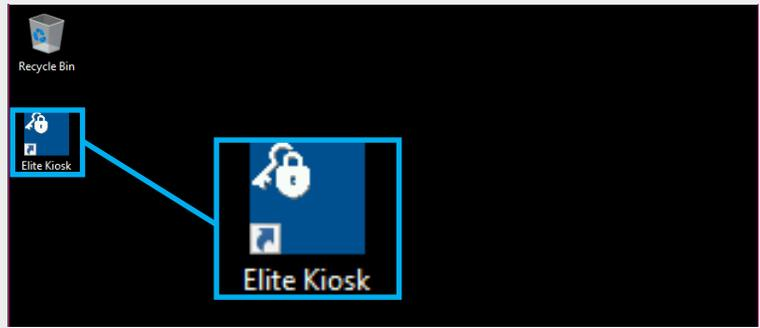

Fig. 14 – Kiosk application desktop icon
1. Double tap the **kiosk icon** shown in Fig. 14.